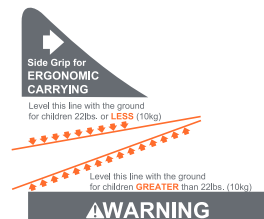

Fig. 52-1
**2. Safety Seat without Base:** Check that the Safety Seat is level side to side on the vehicle seat. Check the Seat Angle Indicator that matches the weight of your child (Fig. 52-1).